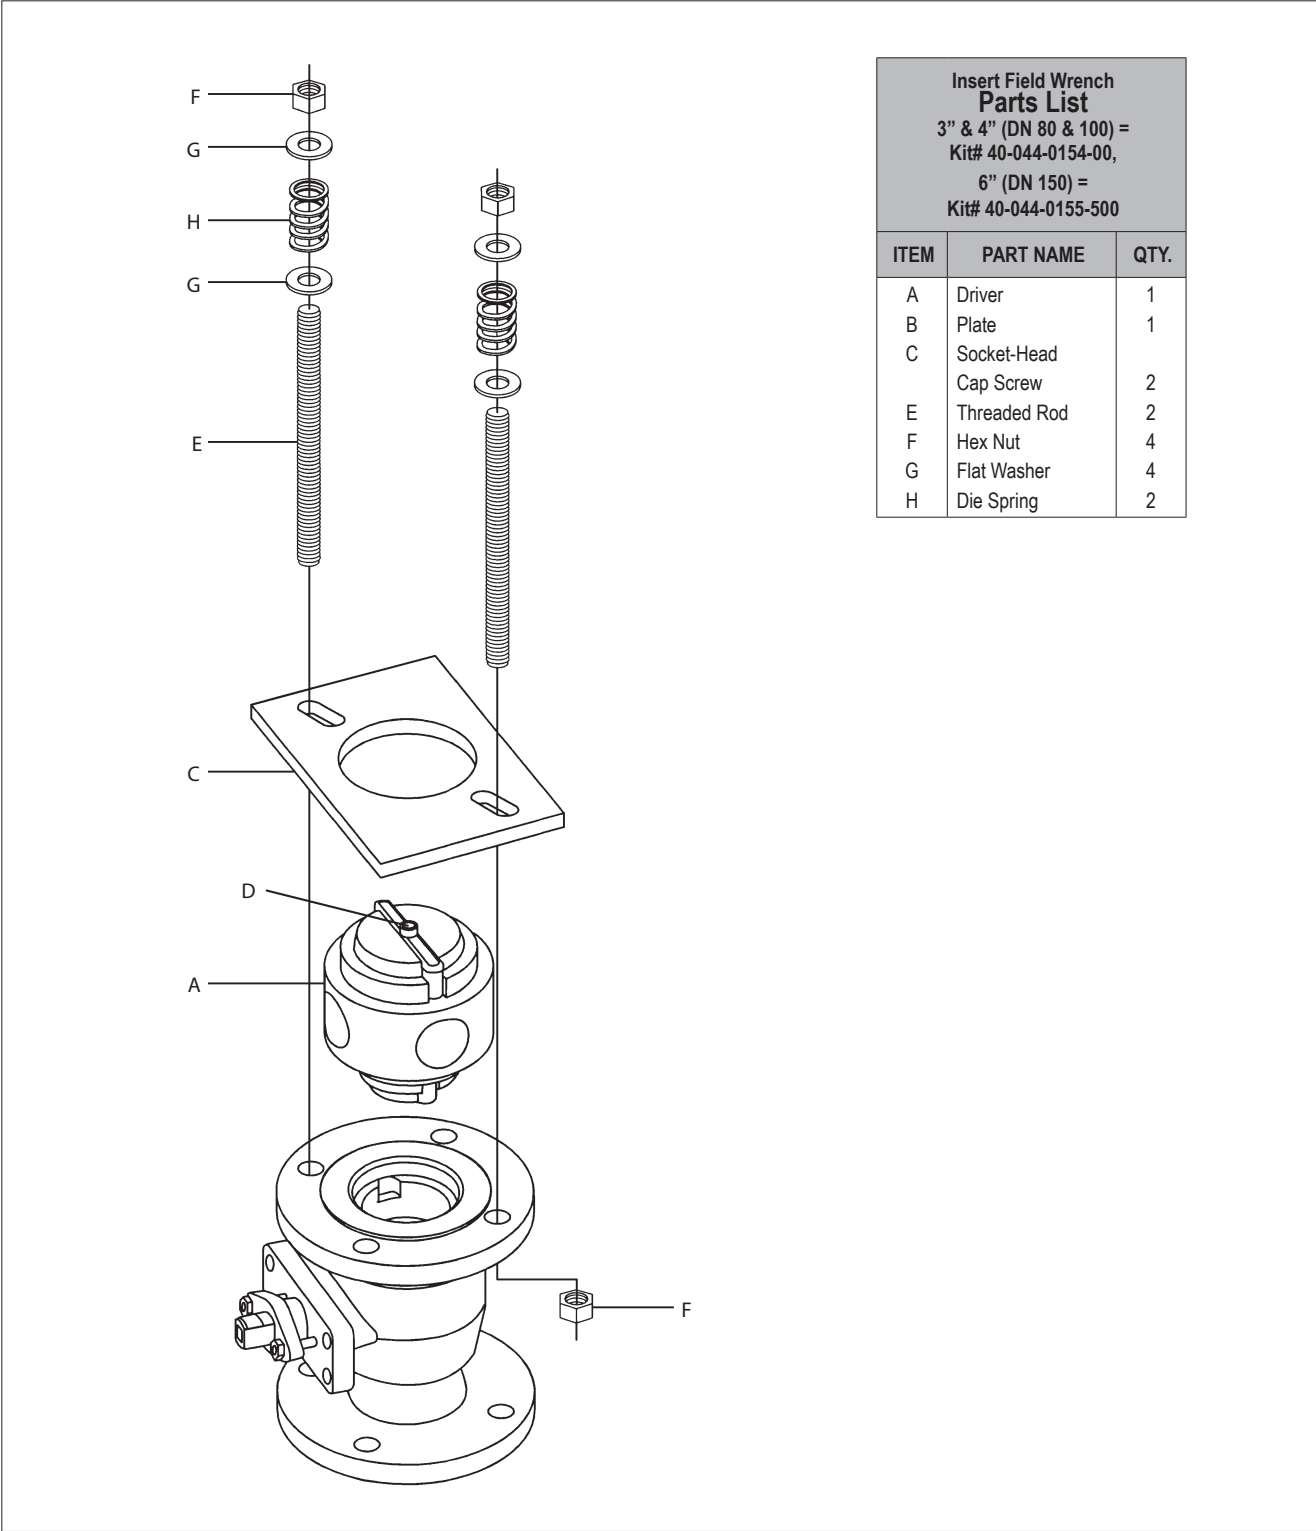

Figure 9.
3. Secure body (1) with body joint opening facing up.
4. Remove the handle screw (35), handle (31), and retaining ring (34) from the top of the stem.
5. The insert design requires that the insert be unthreaded in a counter clockwise motion using the following method using the insert field wrench. Assemble the field wrench as follows, (refer to **Figure 9**):
- a. Place driver (A) into the insert slots.
- b. Put the plate (C) on top of the driver (A).
- c. Place the studs (E) through the plate (C) and flange holes. Thread the nuts (F) onto the stud below the flange.
- d. On the top side of the plate (C) put a flat washer (G), die spring (H), flat washer (G), and nut (F). Tighten to slightly compress springs.
6. Place a pipe or rod through the driver (A) and loosen the insert by turning counter clockwise.